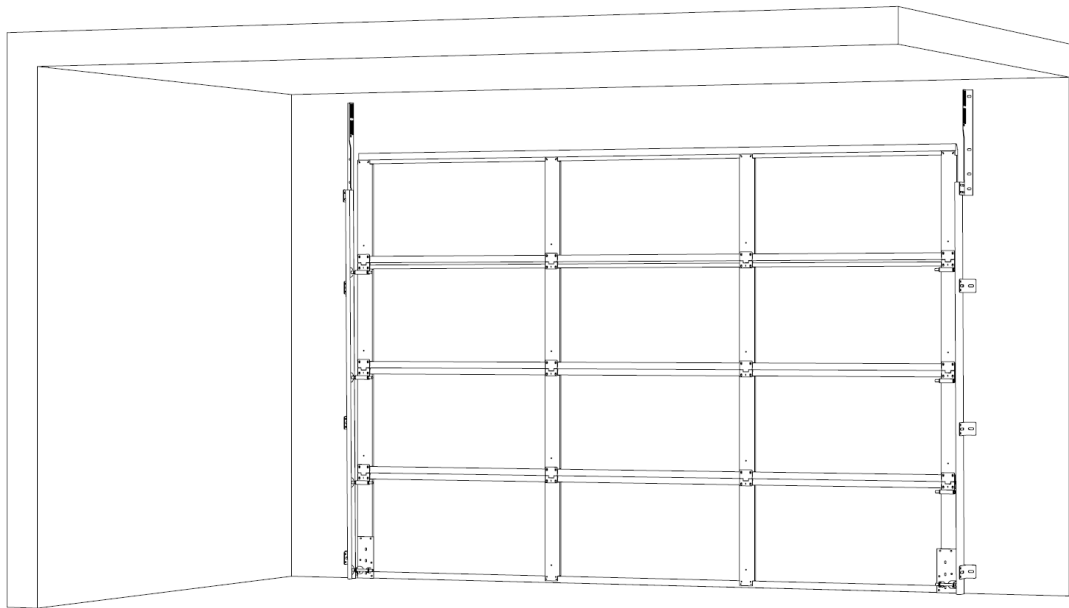

Figure 15
8. Repeat Step 7 for rest of the panels. (Figure 15)